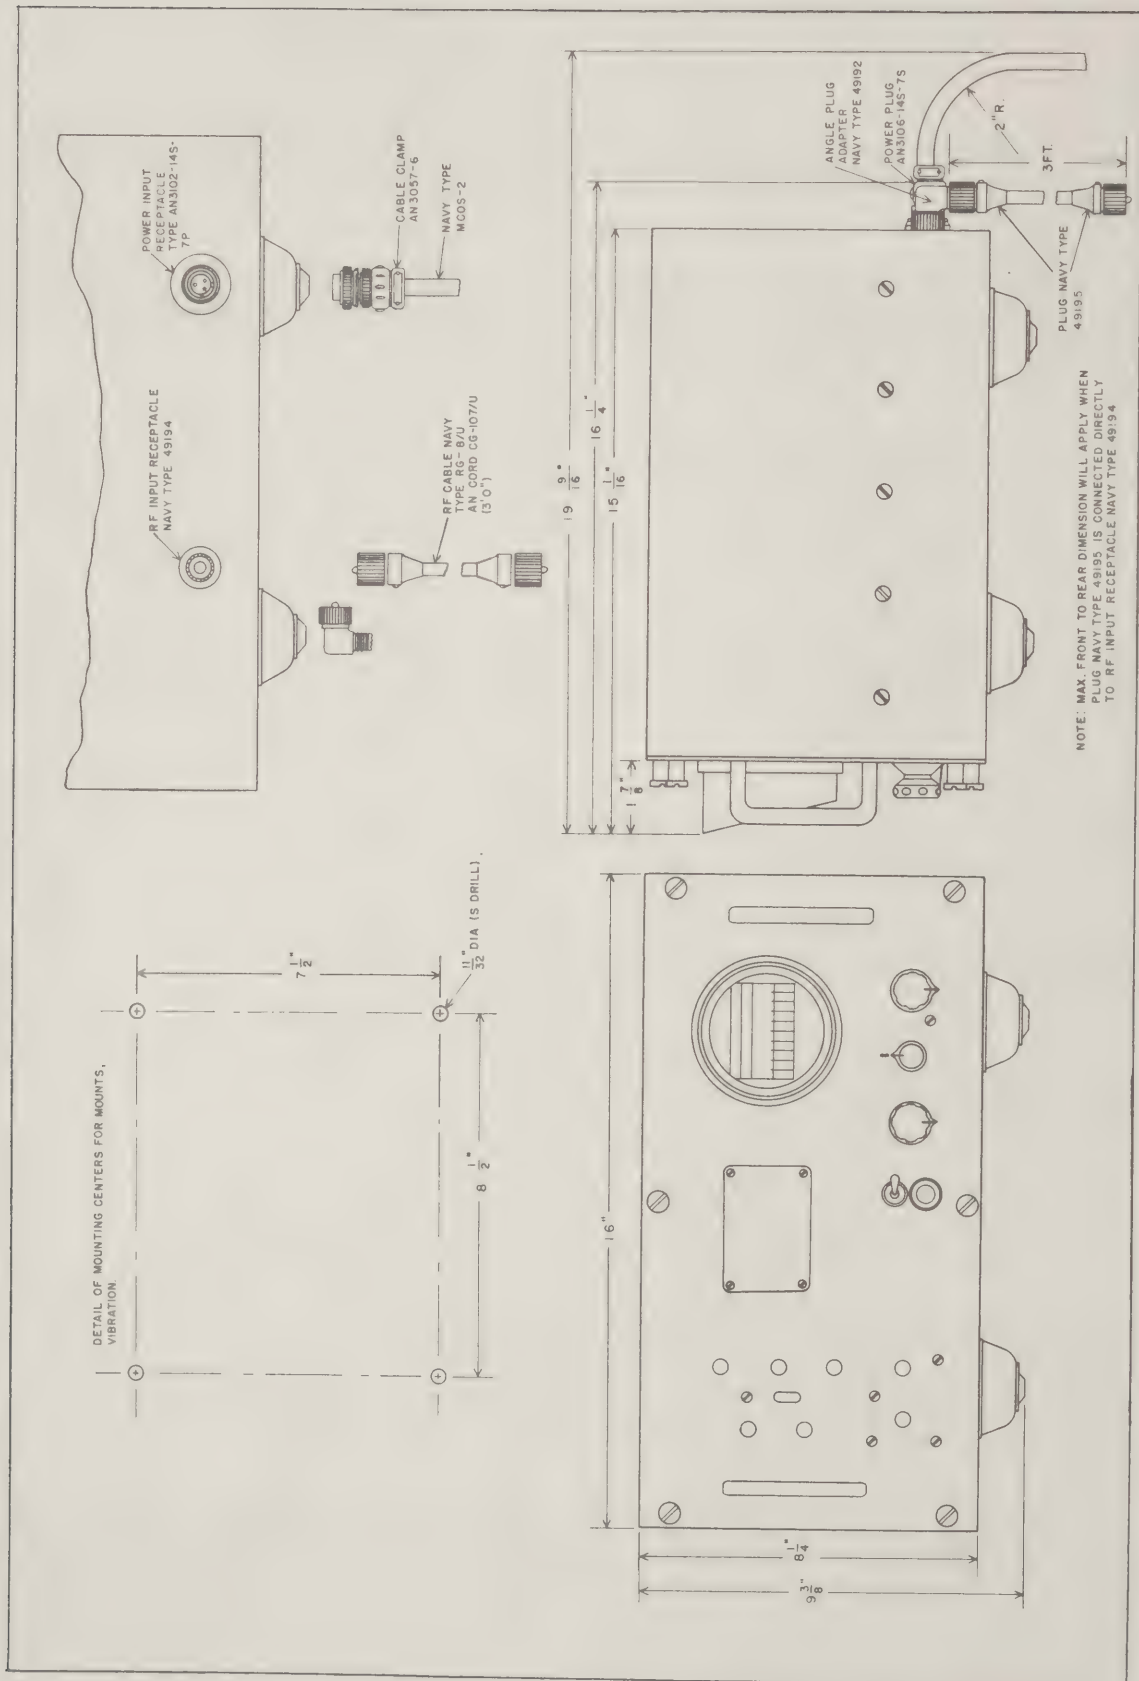

Figure 3-1. Panoramic Indicator IP-206/URR, Installation Drawing
a. The Panoramic Indicator may be mounted over the companion receiver or it may be set in a rack. However, if possible, do not mount the indicator over ventilation holes of the companion receiver. See Fig. 3-1 for installation data.